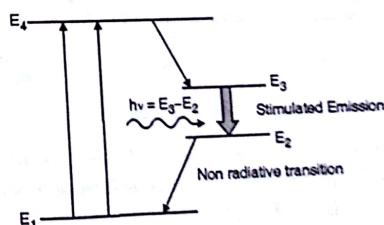

Fig. 4.7.4 : Stimulated emission in 4 level scheme
- A photon with energy  $h\nu = E_3 - E_2$  triggers stimulated emission as shown in Fig. 4.7.4.